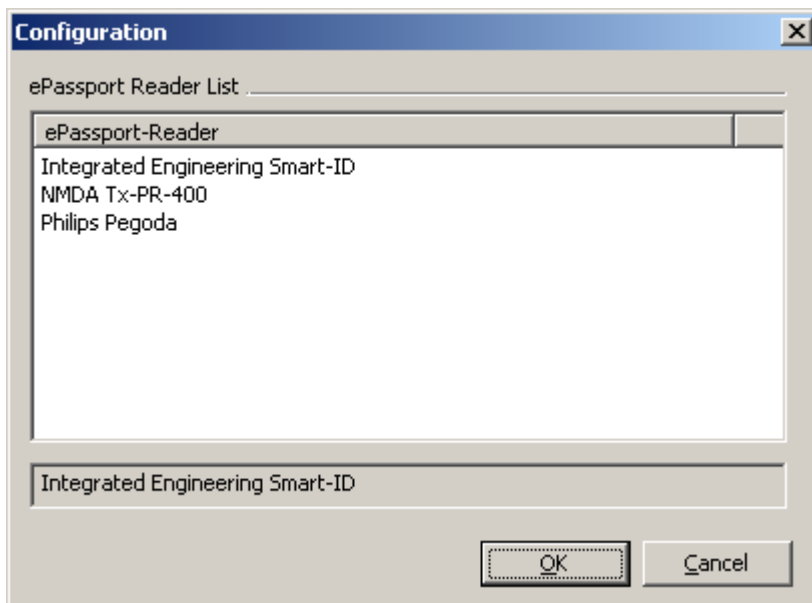

Figure 26: GoldenReader tool Configuration dialog
- The Configuration dialog will appear. See Figure 26 in chapter 7. Appendix A - GoldenReader tool screens.